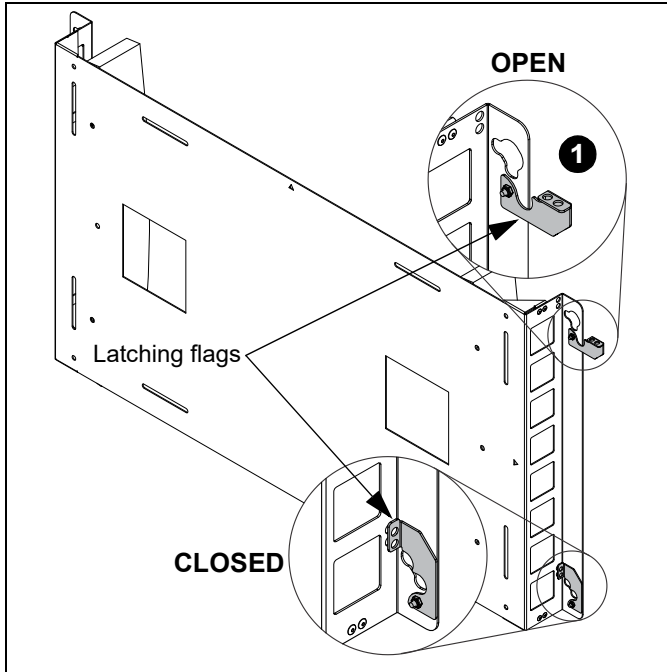

Figure 4
1. Move latching flags on mount to the **OPEN** position. (See Figure 4)